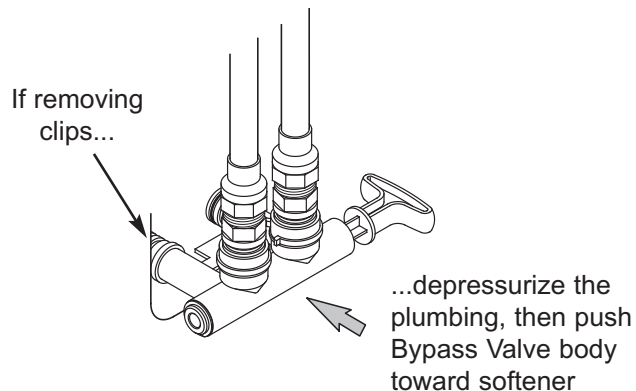

FIG. 15
5. Initiate a regeneration by pressing and holding for 3 seconds the RECHARGE button (see Figure 15 on page 13). The valve motor will start running and the valve will advance to the “Fill” position.